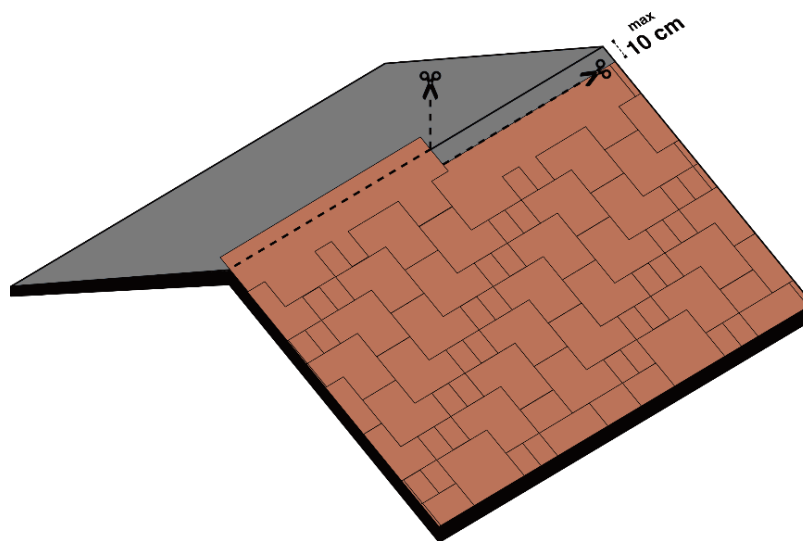

Fig. 18 – Shingles installation until the ridge
- Repeat the installation procedure of the shingles row by row, starting again from line **y**, until the roof pitches are fully covered, leaving the last 10 cm of the bituminous membrane exposed. If necessary, cut the upper part of the last row of shingles – Fig. 18